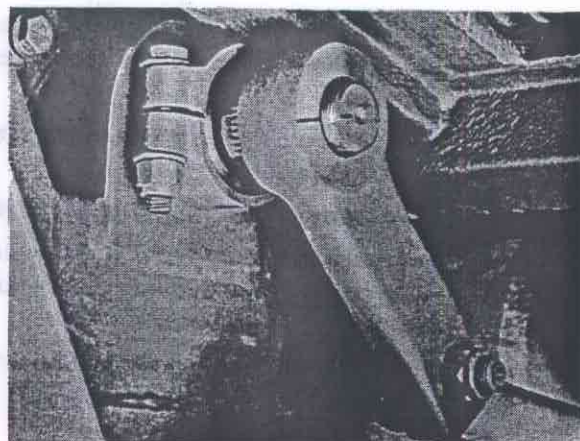

Fig. 64-7. Marking up pitman arm - sector shaft
5. Place the pitman arm according to the marking on Fig. 64-7. Tighten the nut to a torque of 250-350 Nm (25-35 kpm = 180-253 lbft) and lock the nut with the lock washer.